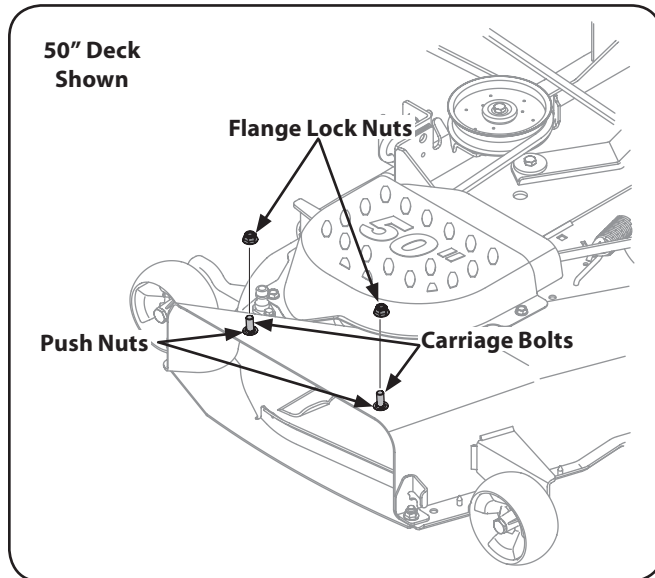

Figure 3-5
2. Remove the flange lock nuts from the deck. Do not remove the push nuts or carriage bolts, leaving them in place will aid in installing the chute. See Figure 3-5.